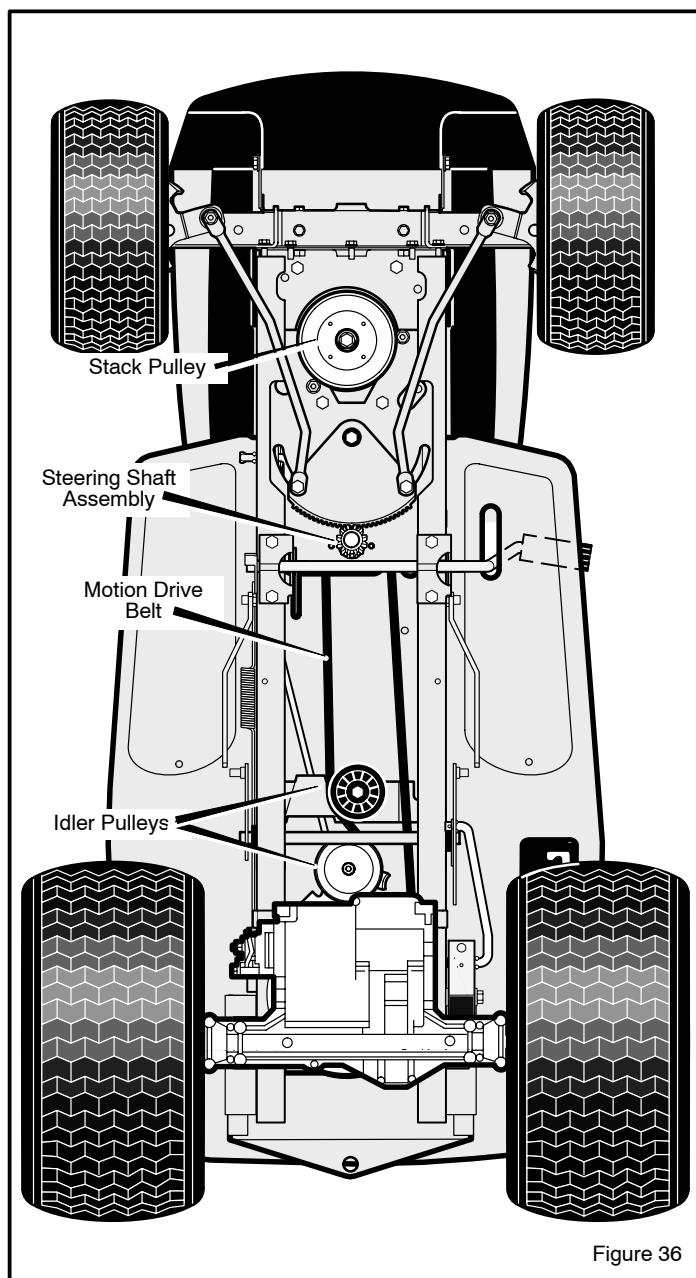

Figure 36
5. Put the belt around the **idler pulleys** (Figure 31, Figure 36). Assemble the **idler pulleys** with the hex nuts. Make sure the belt is not twisted.
10. Check the routing of the motion drive belt. Make sure the **motion drive belt** is installed correctly on the **idler pulleys**. Make sure the **steering shaft assembly** is inside the **motion drive belt** (Figure 36).